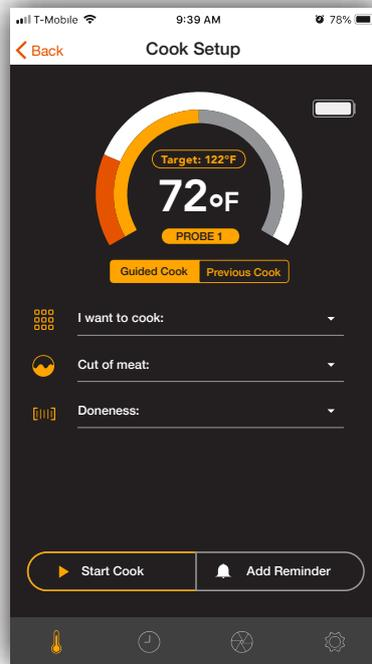

Figure 7. Display of Cook Setup
2. Tap the field of information for the probe you are using on the “Available Probes” screen, the “Cook Setup” screen will appear as shown in Figure 7.